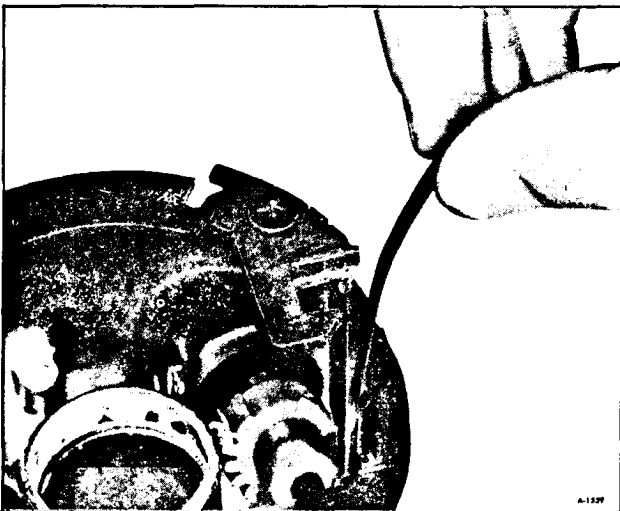

Figure 77-Removing Rack Preload Spring
18. Remove rack preload spring. (figure 77).
3. Insert the rack preload spring in the housing from the bottom side. (figure 77).